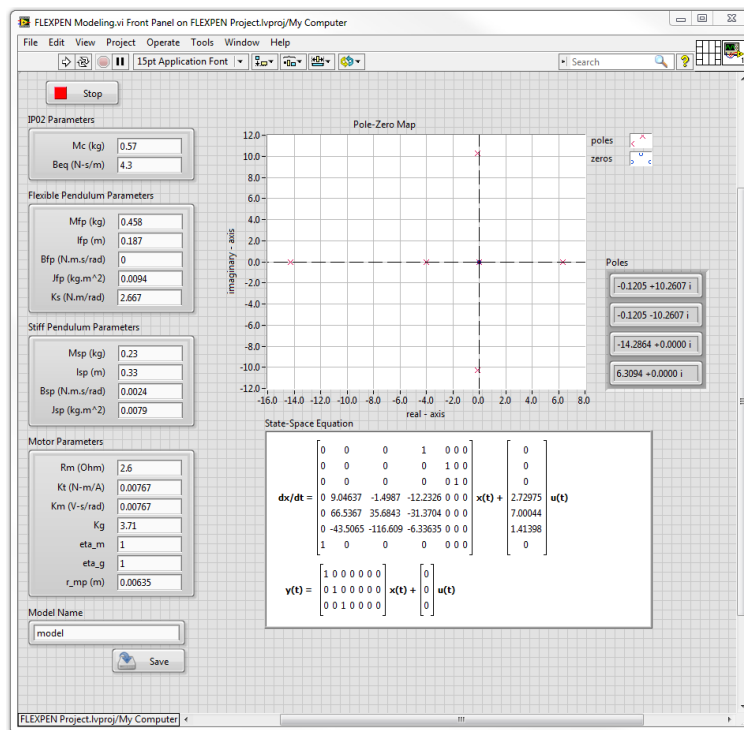

Figure 4.2: Flexible Pendulum Modeling VI
3. Open the *FLEXPEN Modeling.vi* shown in Figure 4.2.